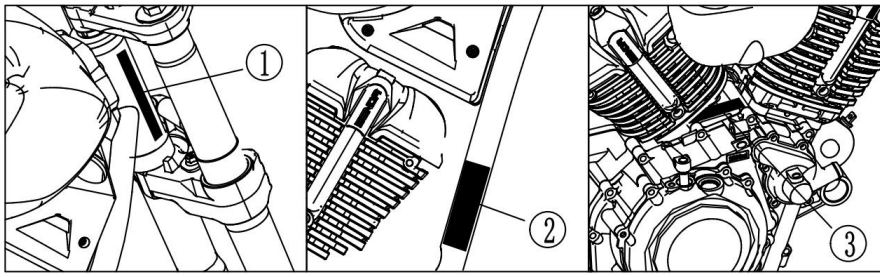

Figure 1 Location of nameplate, VIN code, and engine number
1.2. Number Position (Figure 1)
① VIN: On the right side of the frame main tube;
② Nameplate: On the right side of the frame main tube;
③ Engine number: Above the left box.